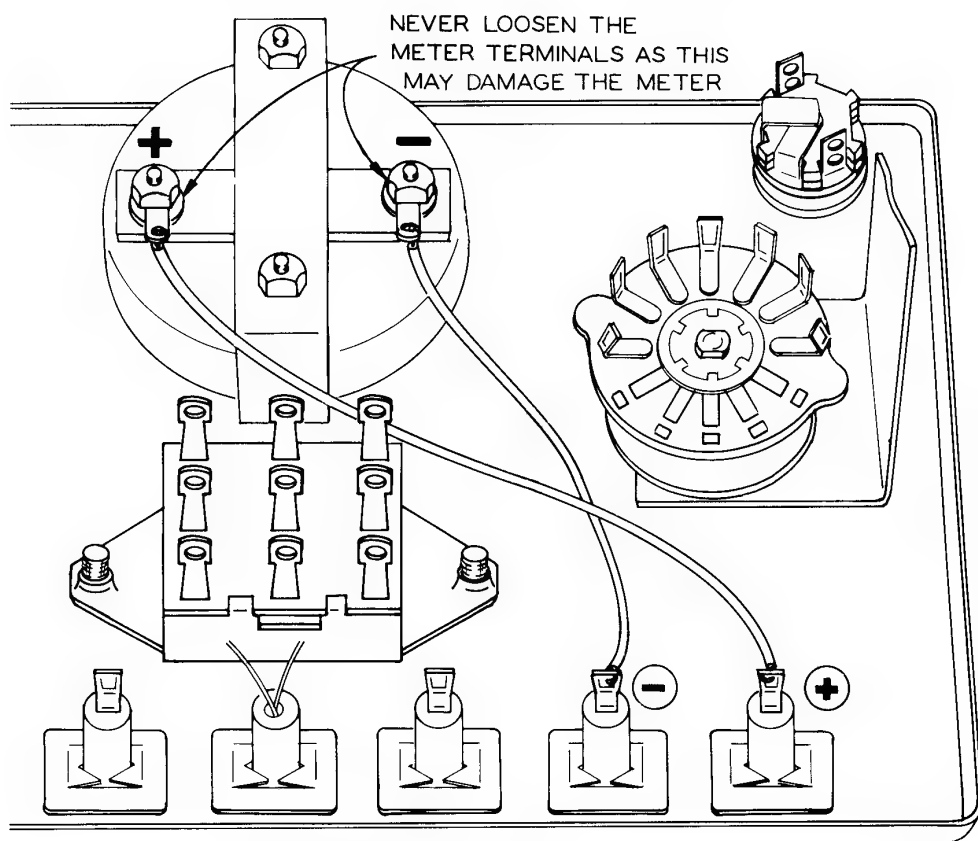

Figure 2-9
- (✓) Connect a wire from the positive meter terminal to the red banana jack marked positive (+) (below the letters DC Milliamps) and another wire from the negative meter terminal to the black banana jack marked negative (-). See Figure 2-9. Solder these connections.